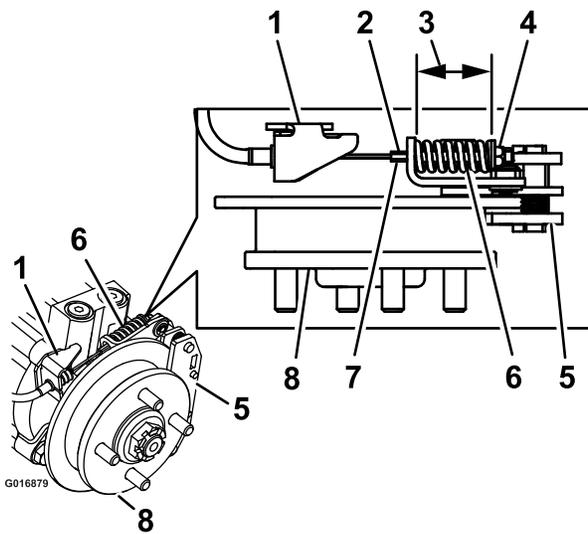

Figure 71
9. Hold the threaded rod end with a tool and adjust the locknut until the spring length is between 3.8 and 4.0 cm (1-1/2 and 1-9/16 inches); refer to Figure 71. Do not allow the cable to turn when the nuts are being loosened.